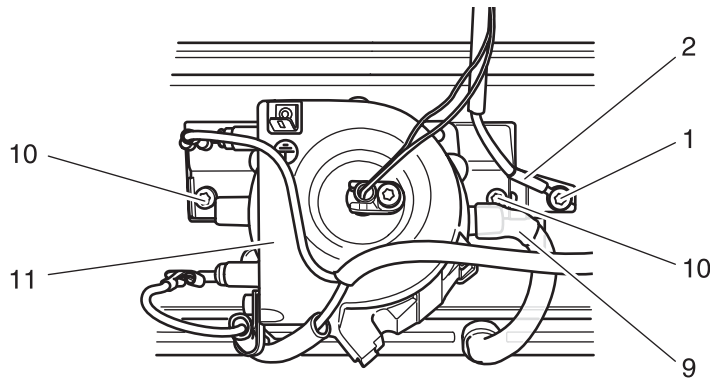

Fig. 12
- Remove screw 1 (fig. 12).
- Fit steam generator 11 (fig. 12).